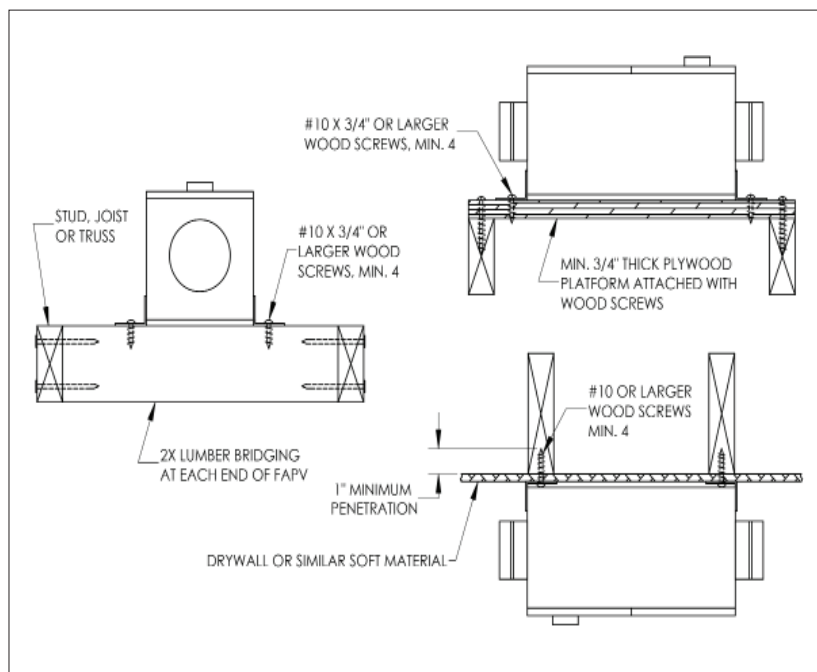

Figure 2 - TYPICAL MOUNTING
2. The FAPV is of rugged construction and requires adequate support for mounting. Install 2x4 bridging or min. 3/4" thick plywood platform if required for secure mounting; see Figure 2.
4. Mount the FAPV fan unit securely onto the mounting surface, wall studs, joists, rafters or trusses using appropriate fasteners, See Figure 2. Do not fasten to drywall or thin paneling alone.